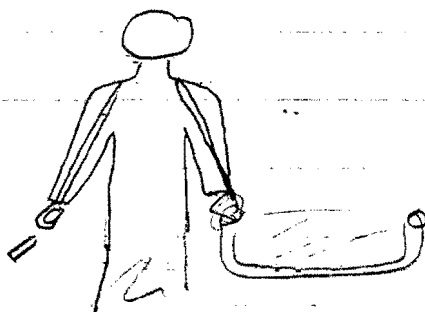

Figure 5.1. Load Straps
e) Much of the strain of carrying a litter can be relieved through the use of load straps, as shown in figure 5.1. Load straps